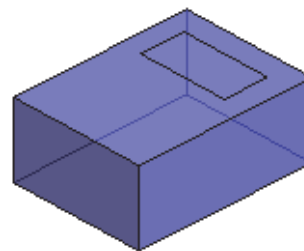

Figure 1–99
6. The start of a mass form is a sketch. How do you place a sketch on another form, as shown in Figure 1–99?